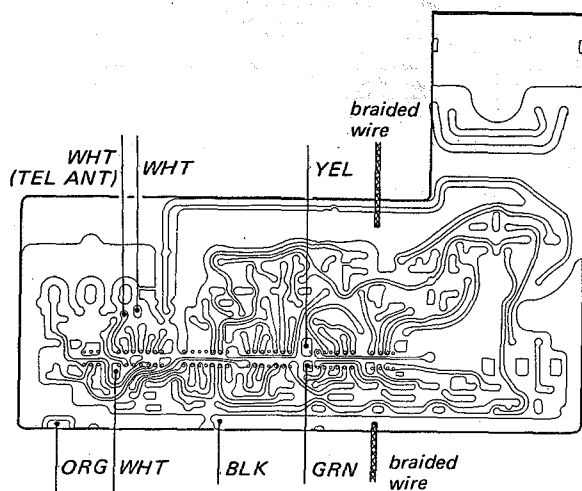

Fig. 2-6 CP circuit board removal, step 4
4. Unsolder the seven leads and two braided wires in Fig. 2-6.